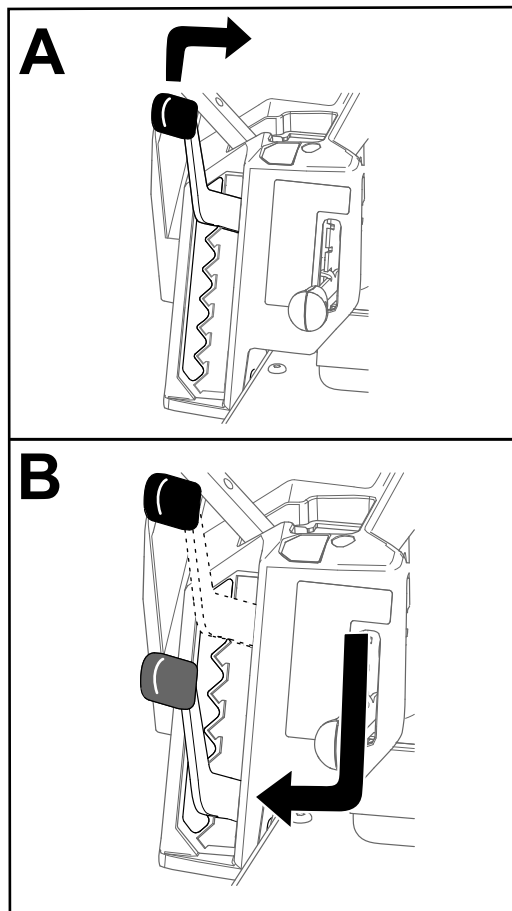

Figure 23
**Note:** The transport position is the highest height-of-cut position or cutting height at 114 mm (4-1/2 inches) as shown in Figure 23.
You can adjust the height of cut from 38 to 114 mm (1-1/2 to 4-1/2 inches) in 13 mm (1/2 inch) increments. The height of cut is controlled by the lever located to the right of the operating position (Figure 23).